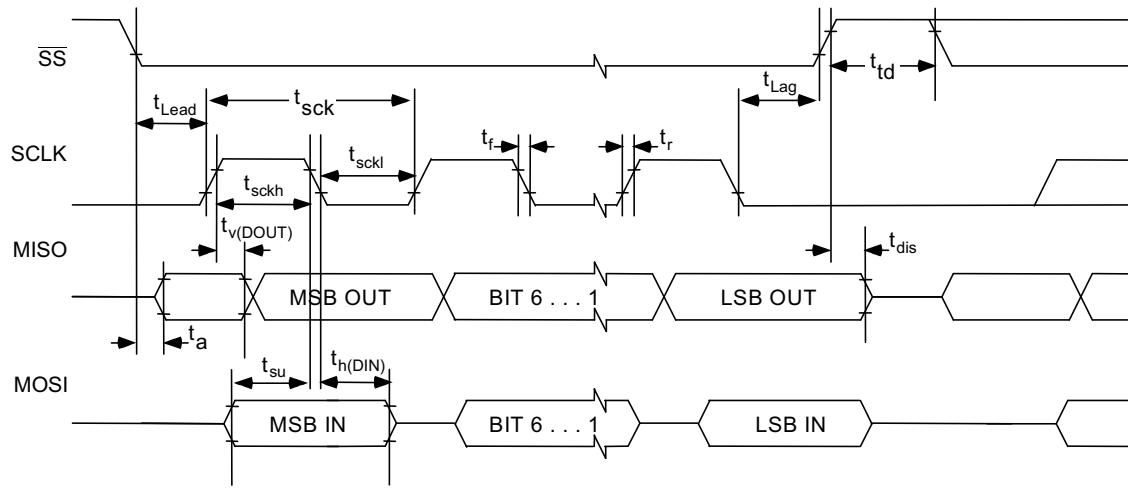

Figure 7. SPI Interface Timing Diagram
8.18 SPI Interface Timing (See Figure 7)